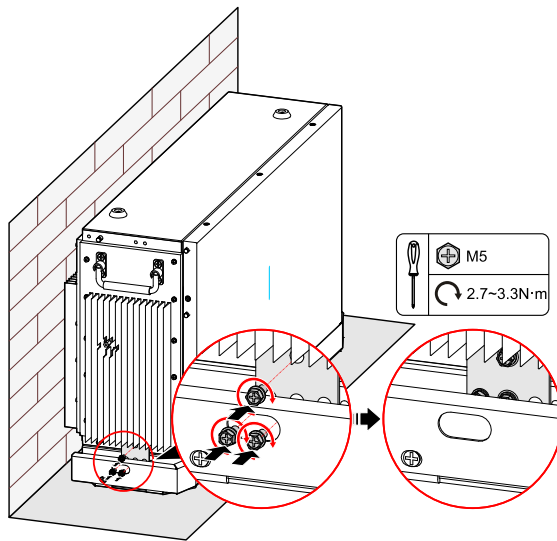

Figure3-17 Fix the bottom battery pack with base
1. Fix the bottom battery pack with base by wall bracket b, as shown in Figure3-17.